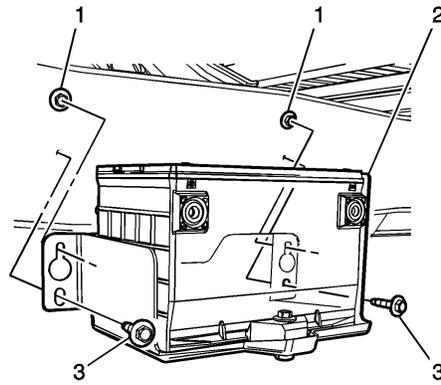

Fig. 4 Auxiliary battery & battery tray assembly removal
9. Remove lower auxiliary battery tray to frame bolts (3), **Fig. 4**.
10. Loosen upper auxiliary battery tray to frame bolts (1), **Fig. 4**. Do not remove bolts.
11. Lift auxiliary battery and tray assembly (2) from upper frame bolts (1), **Fig. 4**.
3. Lift auxiliary battery and tray assembly (2) onto upper auxiliary battery tray bolts (1), **Fig. 4**. Do not tighten upper bolts at this time.
4. Install lower auxiliary battery tray bolts (3), **Fig. 4**.